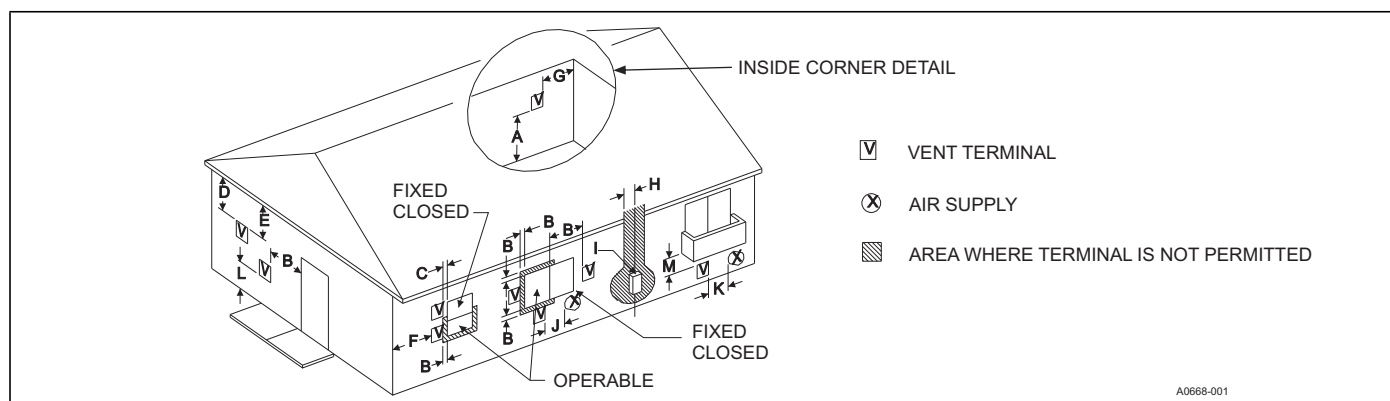
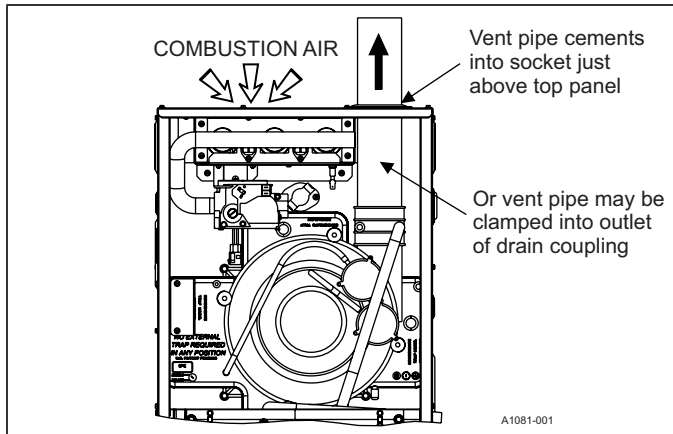

FIGURE 22: Home Layout
FIGURE 30: Combustion Airflow Path Through the Furnace Casing
2. **AMBIENT COMBUSTION AIR:** Combustion air is supplied from the area surrounding the furnace through openings in the furnace casing. The combustion air and the vent pipes are not terminated in the same atmospheric zone. Refer to Figure 22 for vent terminations. Refer to "Ambient Combustion Air Supply" for proper installation. Refer to Figure 30.